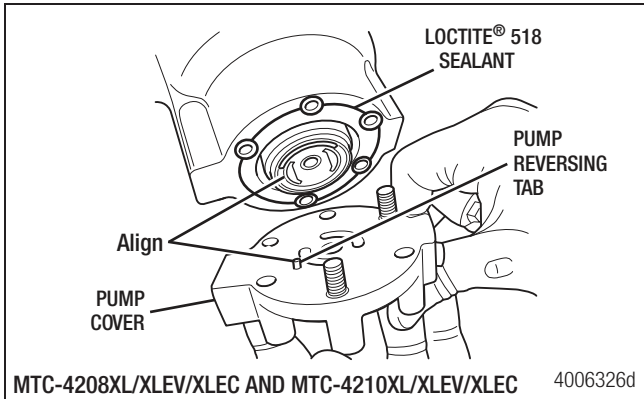

Figure 7.45
- Apply a very light bead of Loctite® 518 sealant onto the pump housing. NEVER allow the sealant to enter the pump cavity. Damage to the pump can result. Figure 7.45.
- Align the reversing tab (roll pin) on the pump cover with the corresponding recess on the pump. The pump cover must be at this orientation to prevent damage to components. Figure 7.45.